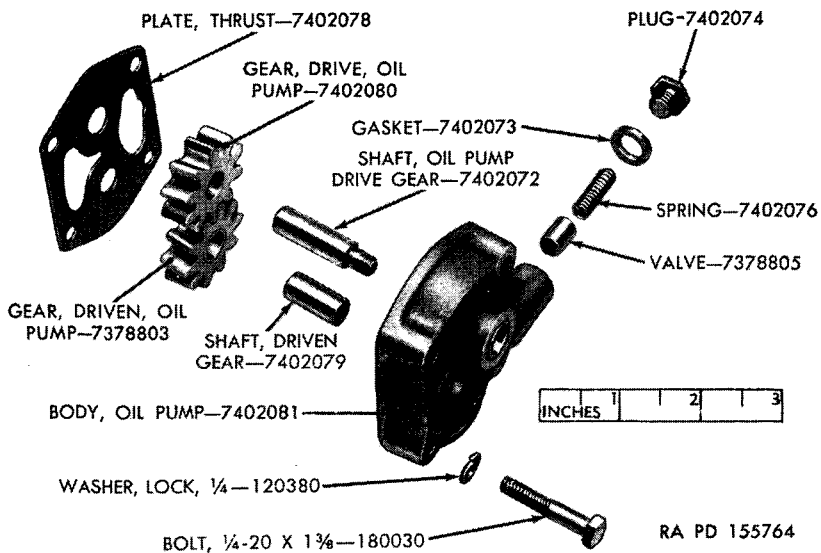

Figure 54. Oil pump—exploded view.
c. Assemble oil-pump relief valve relief-valve spring, and relief-valve plug and gasket in place in pump body (fig. 54).
d. Pilot threaded end of drive-gear shaft through shaft bearing in pump body (fig. 54).